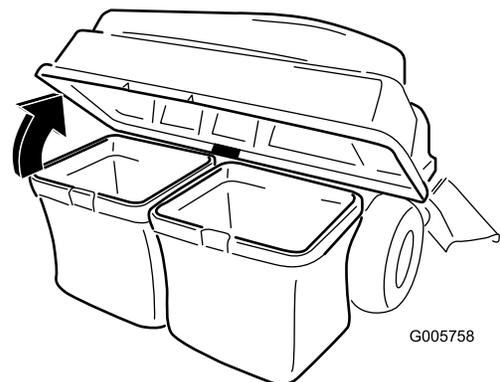

Figure 13
3. Open (raise) the bagger top (Figure 13).